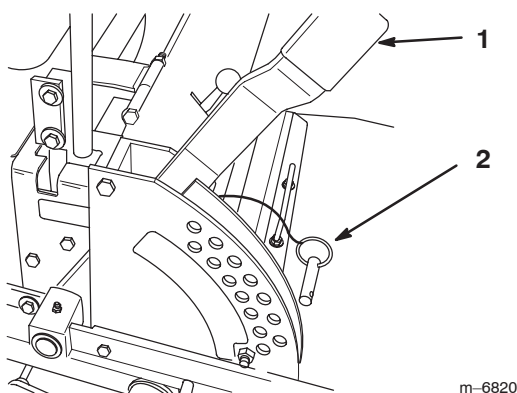

Figure 16
1. Raise the height-of-cut lever to the transport position (also the 5 inch (127 mm) cutting height position) (Fig. 16).
2. To adjust, remove the clevis pin from the height-of-cut bracket (Fig. 16).
3. Select a hole in height-of-cut bracket corresponding to the height-of-cut desired and, insert the clevis pin (Fig. 16).